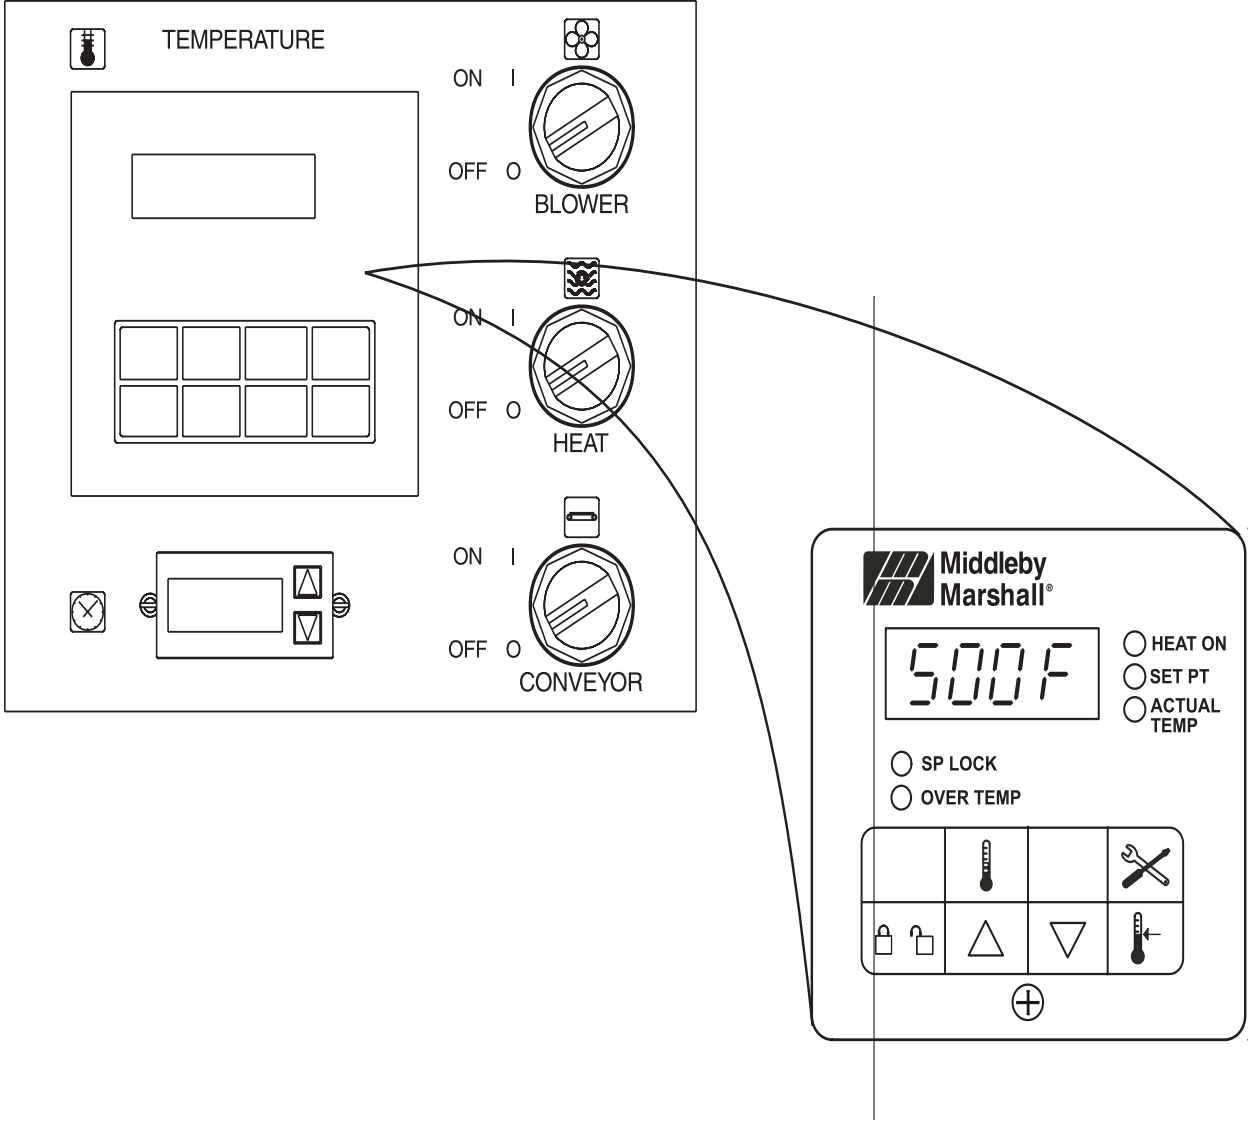

Figure 3-6. Control Panel
1. Turn the BLOWER switch (Figure 3-6) to the "ON" or "I" position. This starts the main blower fan and the cooling fans. The blower circulates air through the air fingers and must stay on during the cooking or baking process.
2. Check to see if the cooling fans (see Figure 1-8) are operating when the blower switch (see Figure 3-6) is turned "ON" or "I". The cooling fans cool the control components and blower motor. The cooling fans, located at the rear of the oven blows air into and through the cabinet. Air is exhausted through the front of the cabinet and also out the front of the oven. Refer to Daily Maintenance Section for fan intake checking procedure.
3. Turn the CONVEYOR switch (Figure 3-6) to the "ON" or "I" position. This starts the conveyor belt moving through the oven. Set the conveyor speed for the desired baking time. Refer to the following Procedures E, F and G.
5. Turn the HEAT switch (Figure 3-6) to the "ON" or "I" position. Wait for the "Heat ON" light to turn on.